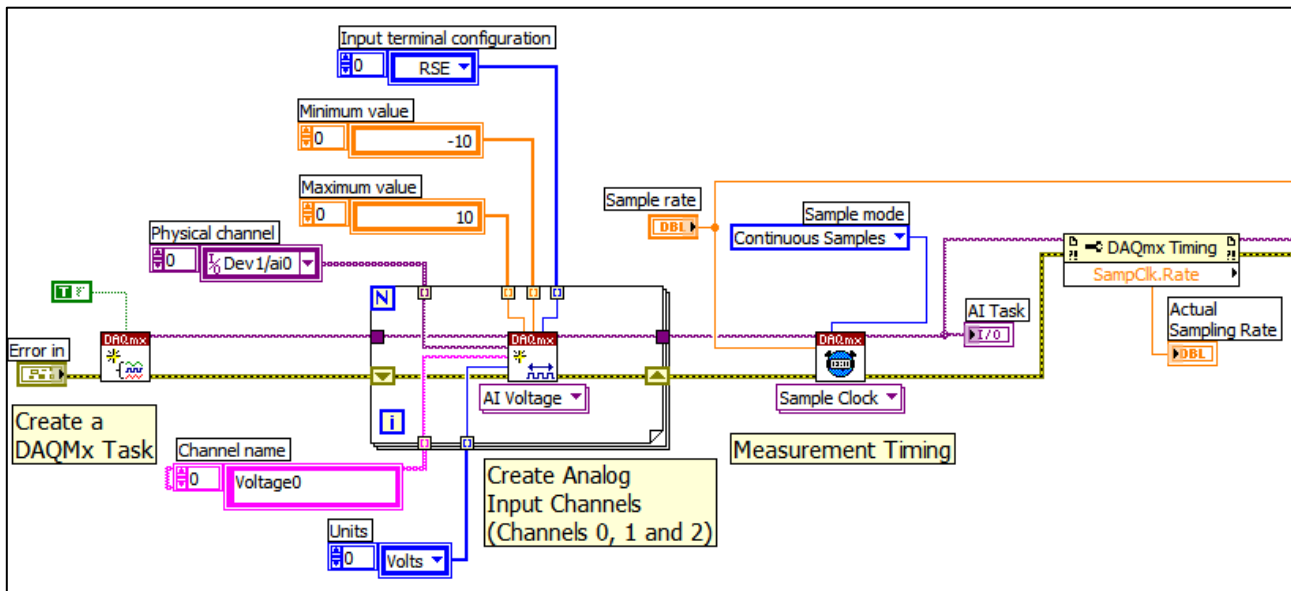

Fig. 2. Segment to Create DAQmx Task and Initialize Analog Input Channels
- At the writing of these notes, the most recent form of data acquisition available in LabVIEW is called *DAQmx*. LabVIEW includes many subroutines (VI's) to support this feature. Fig. 2 shows the first segment of the code that utilizes *DAQmx* VI's to *create* a data acquisition *task* and *initializes* the analog *input channels*.